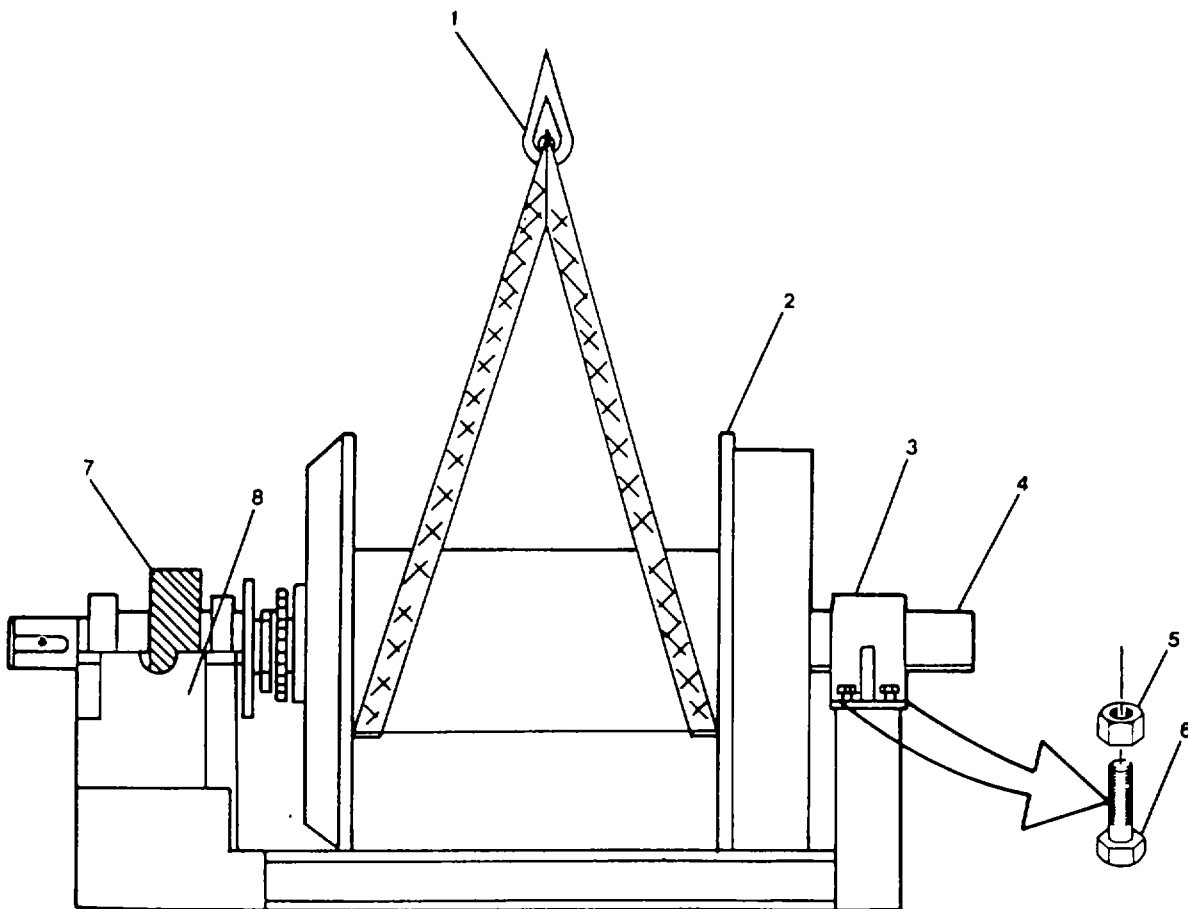

FIGURE 4-18. Lifting Points Pillow Block End/Low Speed Gear Assembly.
- (9) Remove eight hexagon head capscrews (18) and lockwashers (19) securing bearing retainers (20) on each side of gear box.
- (10) Remove bearing retainers (20).
- (11) Remove eight hexagon head cap screws (21) and lockwashers (22) securing bearing retainers (23) on each side of gear box.
- (12) Remove bearing retainers (23).
- (13) Use two jack screws in mounting screw holes at both ends of upper housing to break sealant bond between upper and lower housing.
(14) Lift upper housing and remove to a clean and secure area.
x. Spacer Pillow Block End. (FIGURE 4-18)
- (1) Attach lifting device and sling (1) to lifting points on spool (2).
- (2) Remove four hexagon plain nuts (5) and machine bolts (6) securing pillow block (3) to winch platform.
- (3) Use lifting device to take weight off pillow block.
- (4) Withdraw pillow block (3) from spool shaft (4).
- (5) Lift spool vertically while exercising care as low speed gear assembly.
- (7) is separated from lower gear box housing (8).